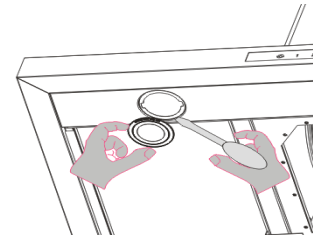

Fig. 9.1
Light replacement (Fig. 9.1, 9.2)
- Push out the light assembly using a small straight screwdriver as illustrated in (Fig.9.1)